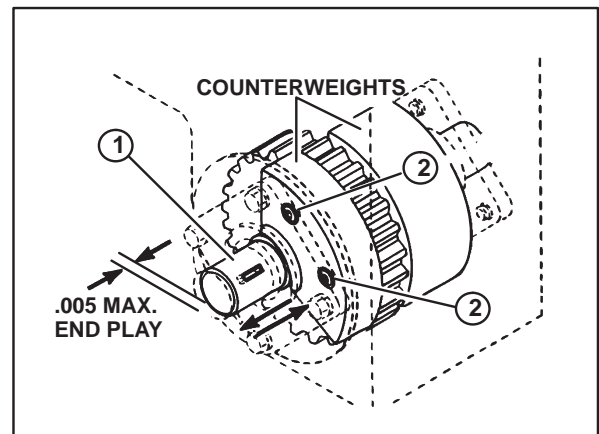

FIGURE 7
17. When installing gear onto shaft, keyways on the shaft must be centered between mounting holes of counter-weights to ensure proper timing. (Figure 7)